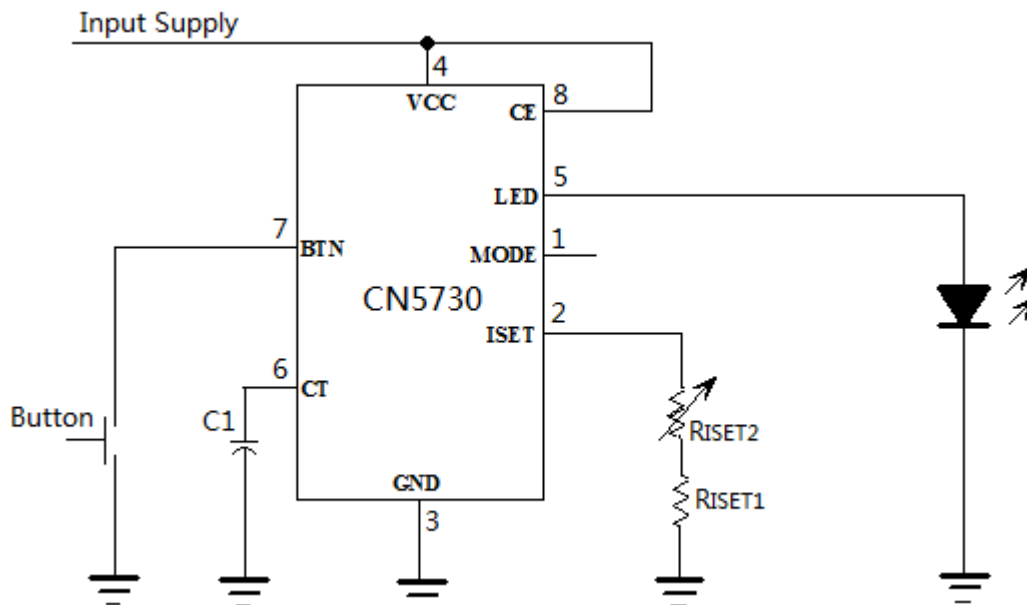

Figure 7 A Potentiometer to Dim the LED
**Method 3:** A potentiometer is used to dim the LED as shown in Figure 7.